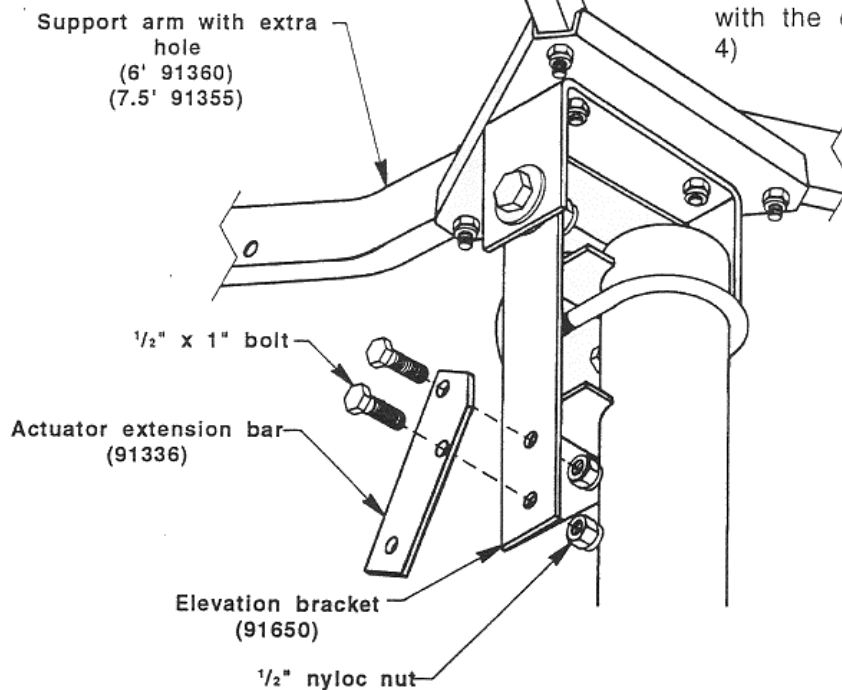

FIG. 4
2. Attach actuator extension bar to the elevation bracket using two $\frac{1}{2}$ " x 1" bolts and two $\frac{1}{2}$ " nyloc nuts (through the two holes on the end of the actuator extension bar with the angular cut. (See Fig. 4)
NOTE: The actuator extension bar should extend to the same side as the support arm with the extra hole. (See Fig. 4)